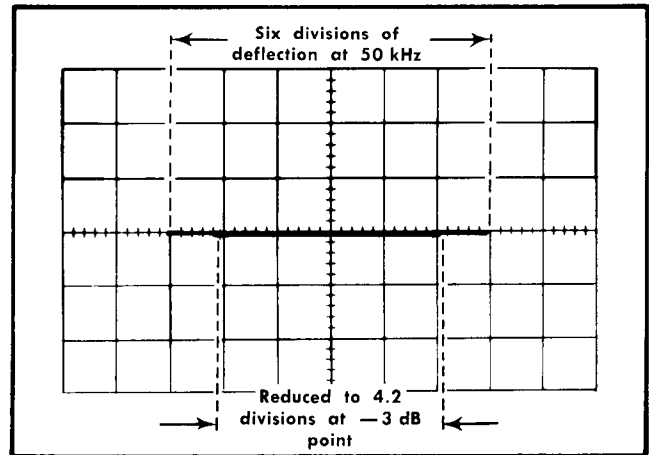

Fig. 5-28. Typical CRT display when checking X-Y bandwidth (double exposure).
d. Without changing the output amplitude, increase the output frequency of the generator until the horizontal deflection is reduced to 4.2 divisions (-3 dB point; see Fig. 5-28).